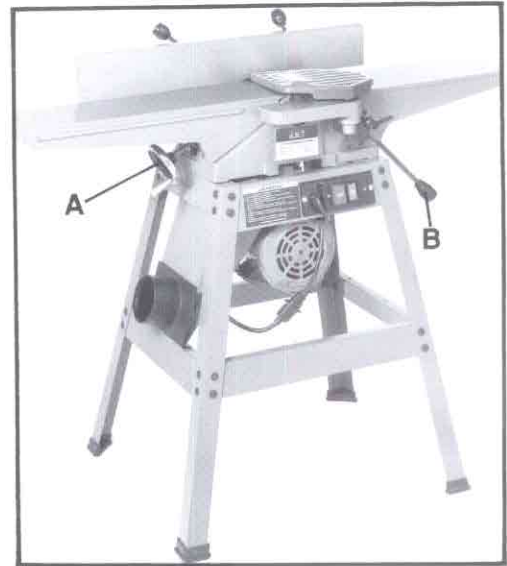

Fig. 11
1. Fasten the handwheel (A, Fig. 11) to the handwheel post with one 1/4" x 1/2" pan head screw and one 1/4" flat washer.
2. Thread the handle (B, Fig. 11) into the block on the right side of the jointer. Tighten the hex nut to hold in place.